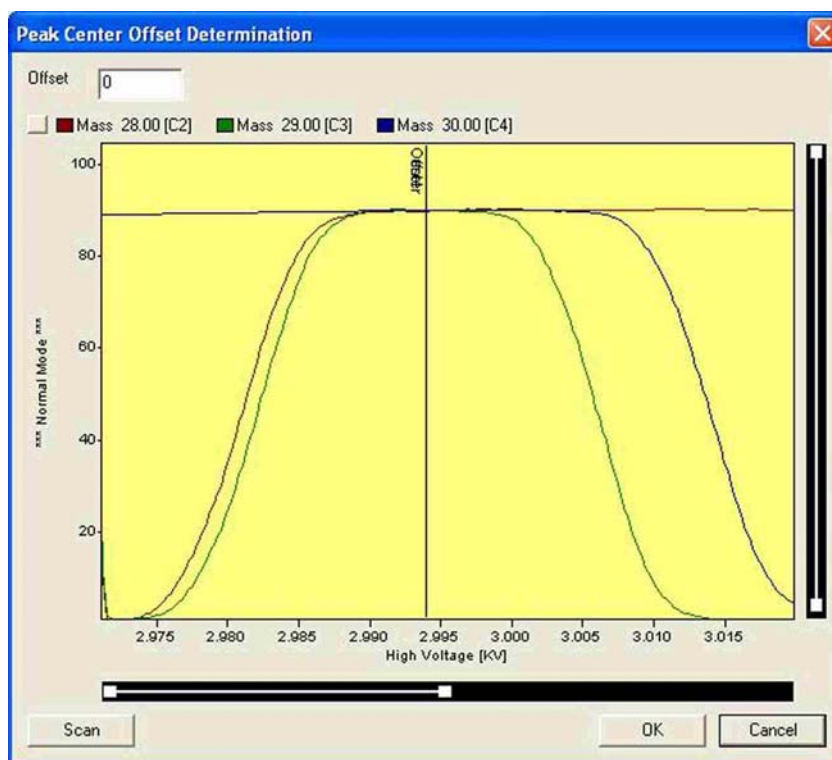

Figure 6-24. Peak Center Offset Determination
1. First, a Peak Shape Scan is performed according to Figure 6-24.